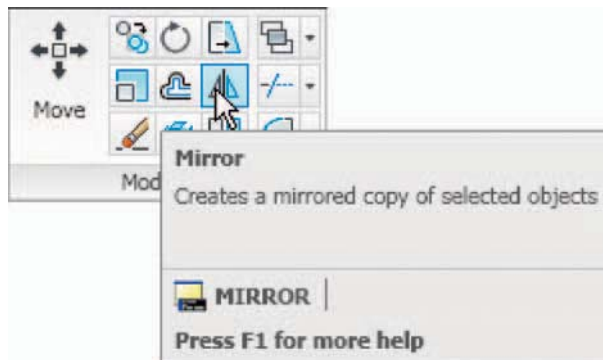

Fig. 5.8 The Mirror tool from the Modify toolbar
2. Call the **Mirror** tool – *left-click* on its tool icon in the **Home/Modify** panel (Fig. 5.8), *pick Mirror* from the **Modify** toolbar or from the **Modify** drop-down menu, or *enter mi* or *mirror* at the command line. The command line shows: